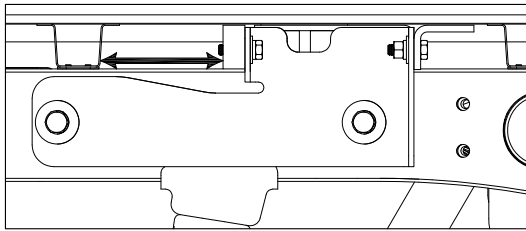

Figure D1: Passenger side of truck frame inside the wheel well.
4. **Square the hitch.** With a tape measure, check the distance between the Turnoverball hitch and the nearest bed cross member. The distance between the hitch and the cross member should be consistent on the passenger side and the driver side of the hitch, see Figure D1. Adjust hitch until the hitch and the bed cross member are the same from side to side.